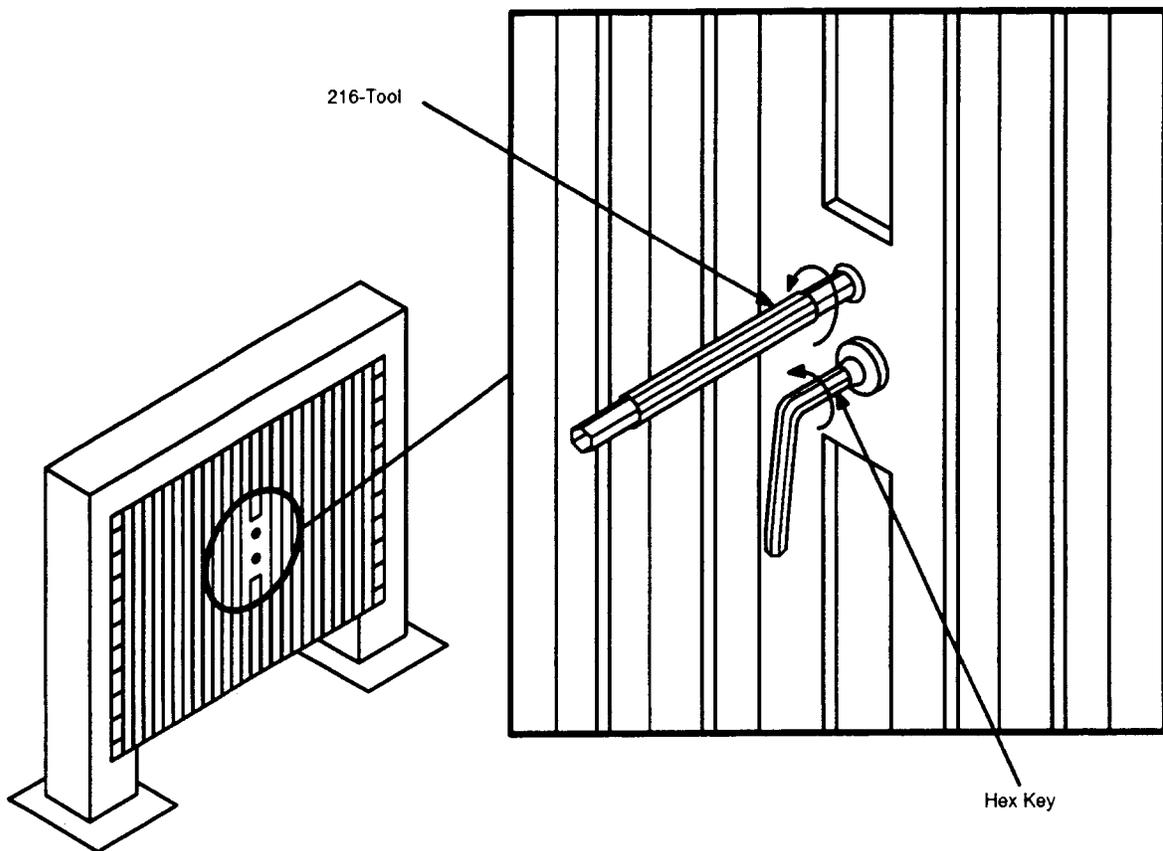

Figure 1 — Opening a Typical Cabinet with Hex Key and 216-Tool
1. AC power panels are typically accessed from side 1 of the cabinet. The cabinet is typically opened using a special key (allen-type wrench) and a 216-type tool as shown in Figure 1.